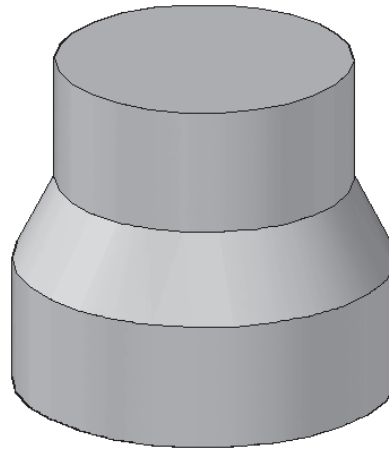

Figure 7–4
7. In the Loft Settings dialog box, select **Ruled** and click **OK**. You should see an object similar to the one shown in Figure 7–4.